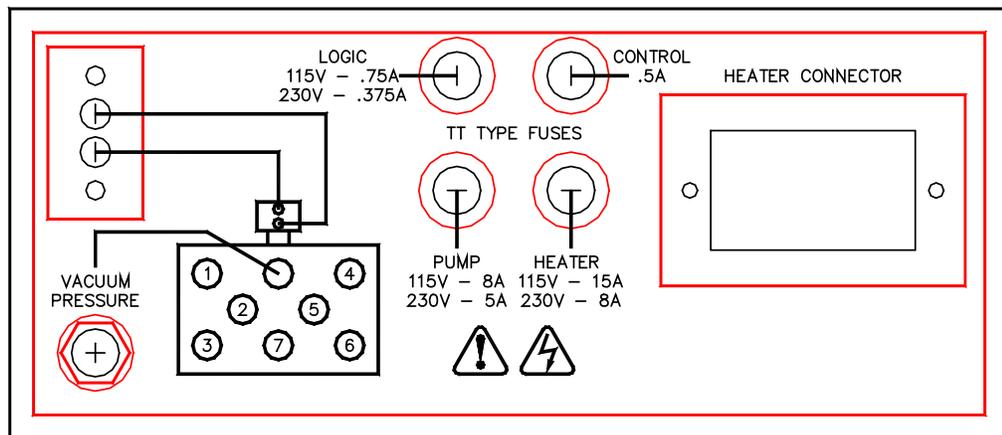

Figure 5-4 Interface panel
5. Connect the heater connector into the interface panel (see figure 5-4).